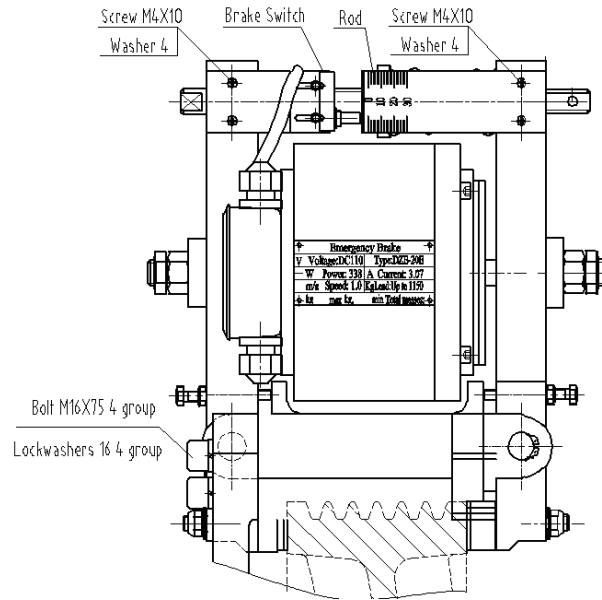

Figure 29 Emergency Brake
3. Remove the two (2) Screws M4X10 and then remove the Brake switch and plate. See figure 29.
4. Remove the two (2) Screws M4X10 and then remove the Rod. See figure 29.